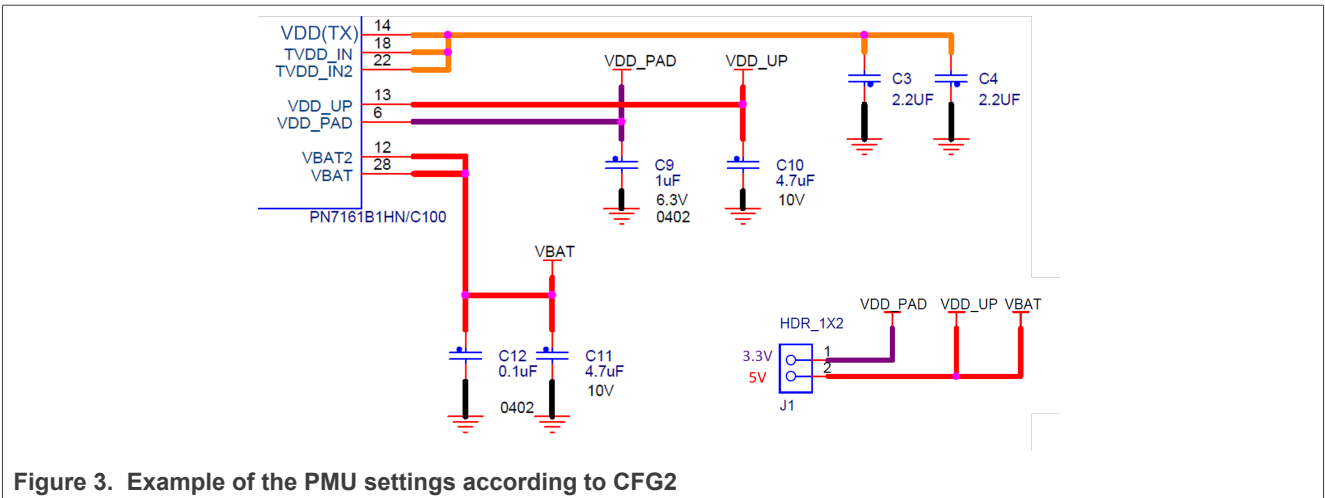

Figure 3. Example of the PMU settings according to CFG2
In **CFG 2**, the VDD(UP) pin is connected to an external power supply. VBAT pin can be connected to the same PMU/Regulator which supply VDD(UP). See the example in Figure 3.